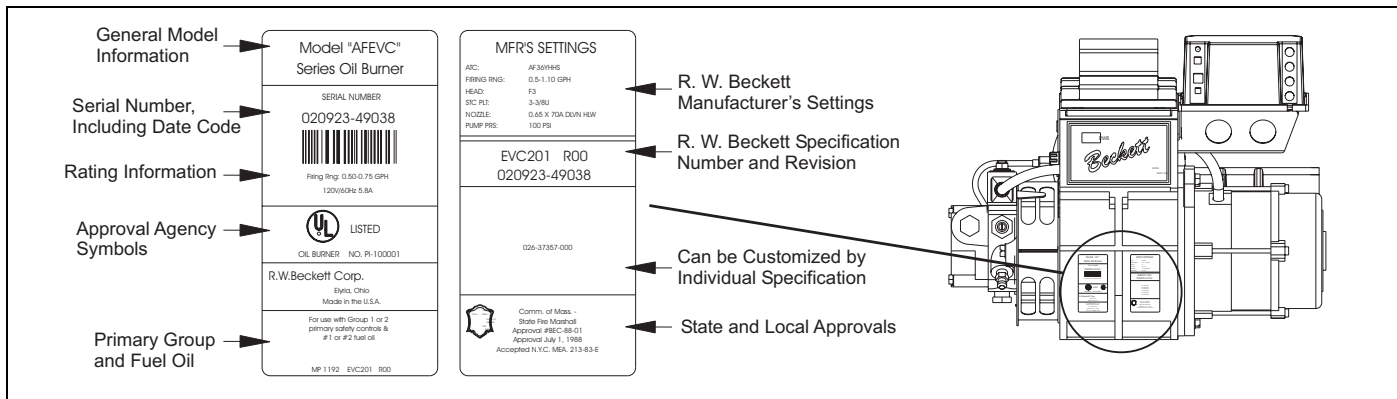

FIGURE 1: Label Location
WHEN CONTACTING BECKETT FOR SERVICE INFORMATION - Please record the burner serial number (and have available when calling or writing). You will find the serial number on the Underwriters Laboratories label, located on the left rear of the burner, or cover mounting plate. See Figure 1.
- State and local approvals are shown on burner rating label (See Figure 1).